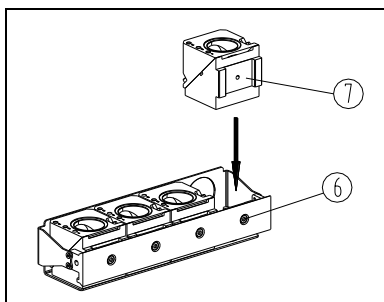

Fig. 25
★ Replace the fluorescence filter module. See Fig. 25, firstly loosen the lock screw (6), take off the original fluorescence filter module, then put on the fluorescence filter module (7) to be installed, insert it into the fluorescence filter base set to the bottom, then tighten the lock screw (6).